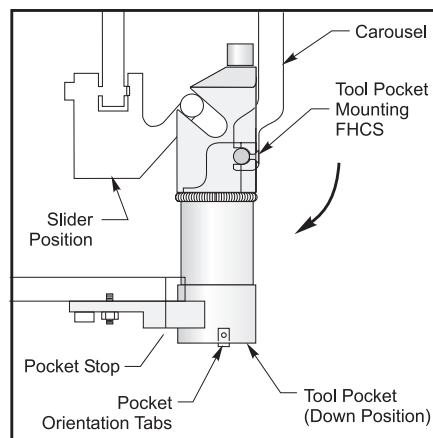
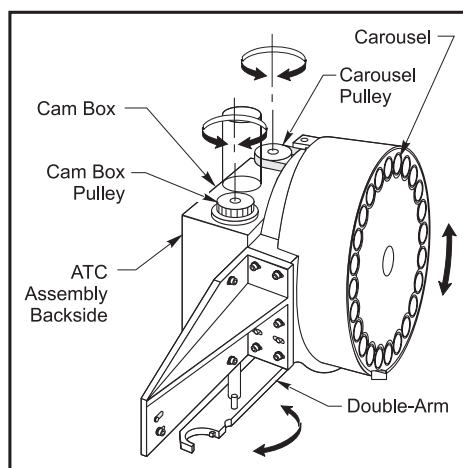

Figure 3.12-3 Carousel and Tool Pocket Installation
Figure 3.12-4 Pulley locations and ATC movement
5. Unscrew the FHCS for each tool pocket. Remove the tool pocket holders from carousel. Refer to Figure 3.12-3.
3. Install each tool holder through the spindle. Attach the tool pocket to the carousel. Apply blue loctite to the Torx and torque to 15 ft-lbs (1/4-20) / 23 ft-lbs (5/16-18). Manually rotate the carousel for each tool pocket installation. Re-install the pocket stop and slider. Refer to Figure 3.12-3. The carousel can be rotated by manually rotating the carousel pulley by hand. See Figure 3.12-4